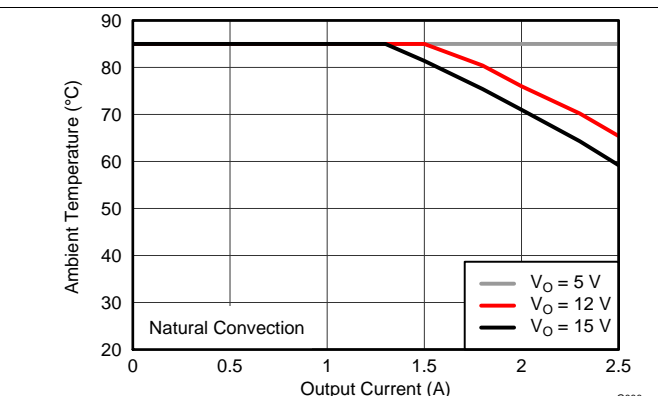

Figure 22. Safe Operating Area
- (3) The temperature derating curves represent the conditions at which internal components are at or below the manufacturer's maximum operating temperatures. Derating limits apply to devices soldered directly to a 100 mm x 100 mm double-sided PCB with 1 oz. copper. Applies to Figure 22.